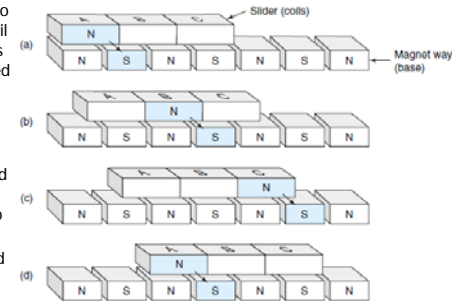

Figure 3.23 Operation of a simplified three phase linear motor.
- Figure 3.23 illustrates the operation of a simplified three-phase linear motor.
- (a), coil A is switched on, causing it to become a north pole (N).